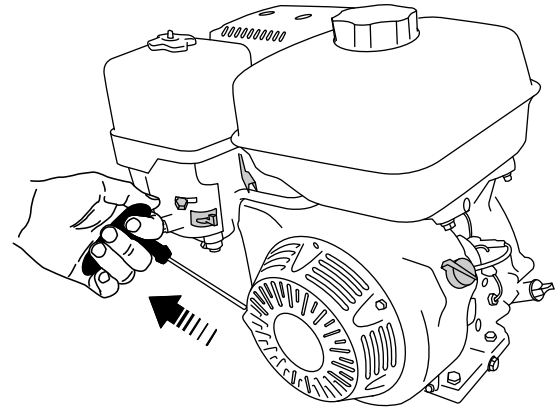

Figure 38
6. Pull the recoil-start handle lightly until you feel resistance, then pull the handle briskly. Return the starter handle gently (Figure 38).